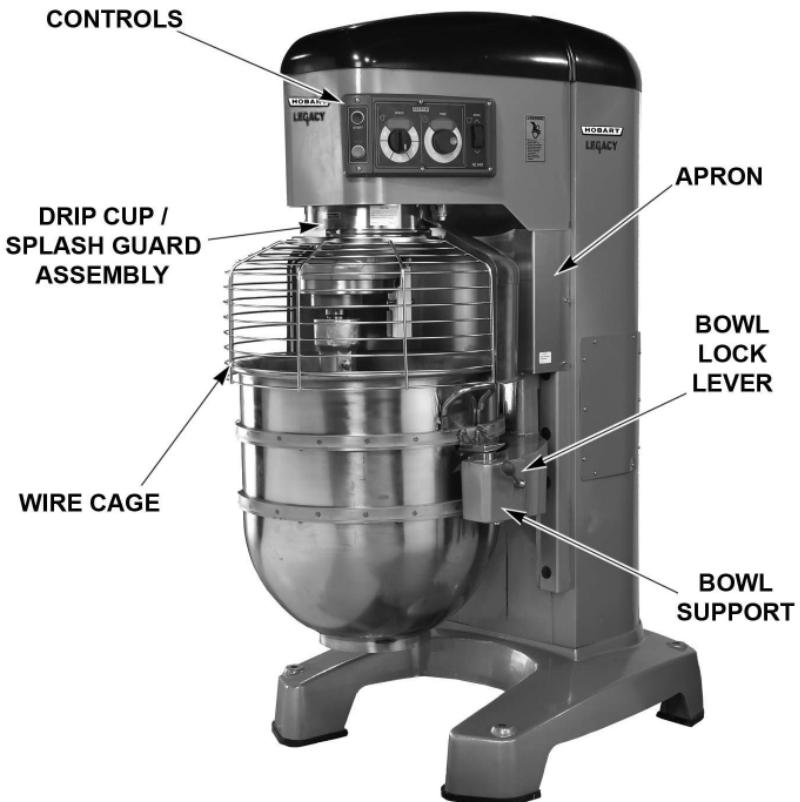

Fig. 1.
- Unscrew the dipstick using a 3/8" hexagon Allen key and check the oil level. The oil level must be between the two grooves on the dipstick. Refer to Fig. 1 for the dip stick position.
The Legacy™ mixer is equipped with SmartTimer™ controls and a power bowl lift. Other operating parts (Fig. 1, page 8) and their functions are described throughout the Operation section.